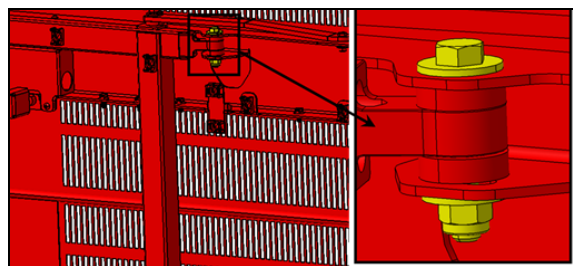

FIGURE 49
6. If the longitudinal position is out of tolerance, adjust using the adjustment provided on the inner side of the door, at the upper attachment point of the arm on the door (FIGURE 49).